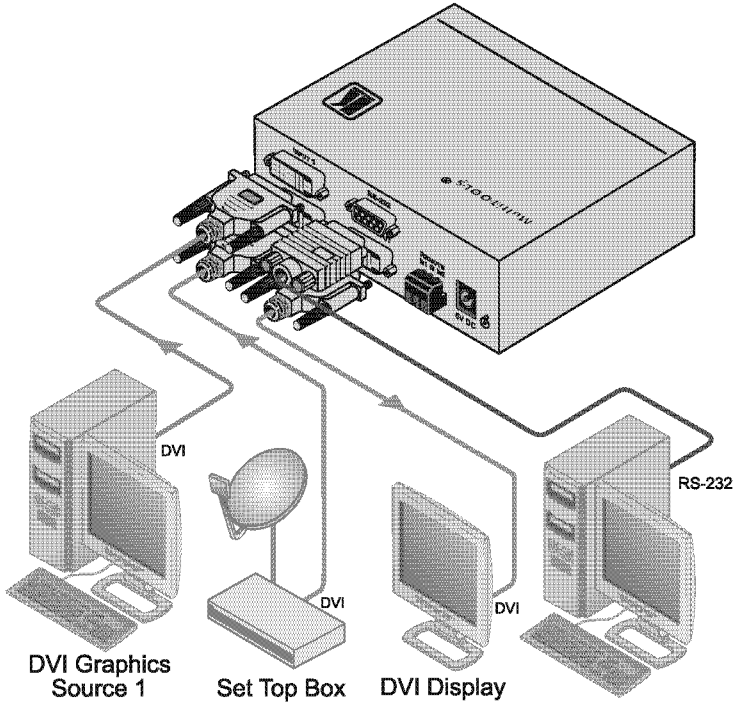

Figure 2: Connecting a VS-21HDCP-IR 2x1 DVI Switcher
To connect the **VS-21HDCP-IR 2x1 DVI Switcher**, as illustrated in the example in Figure 2, do the following²:
3. Connect the 5V DC power adapter to the power socket and connect the adapter to the mains electricity (not illustrated in Figure 2).